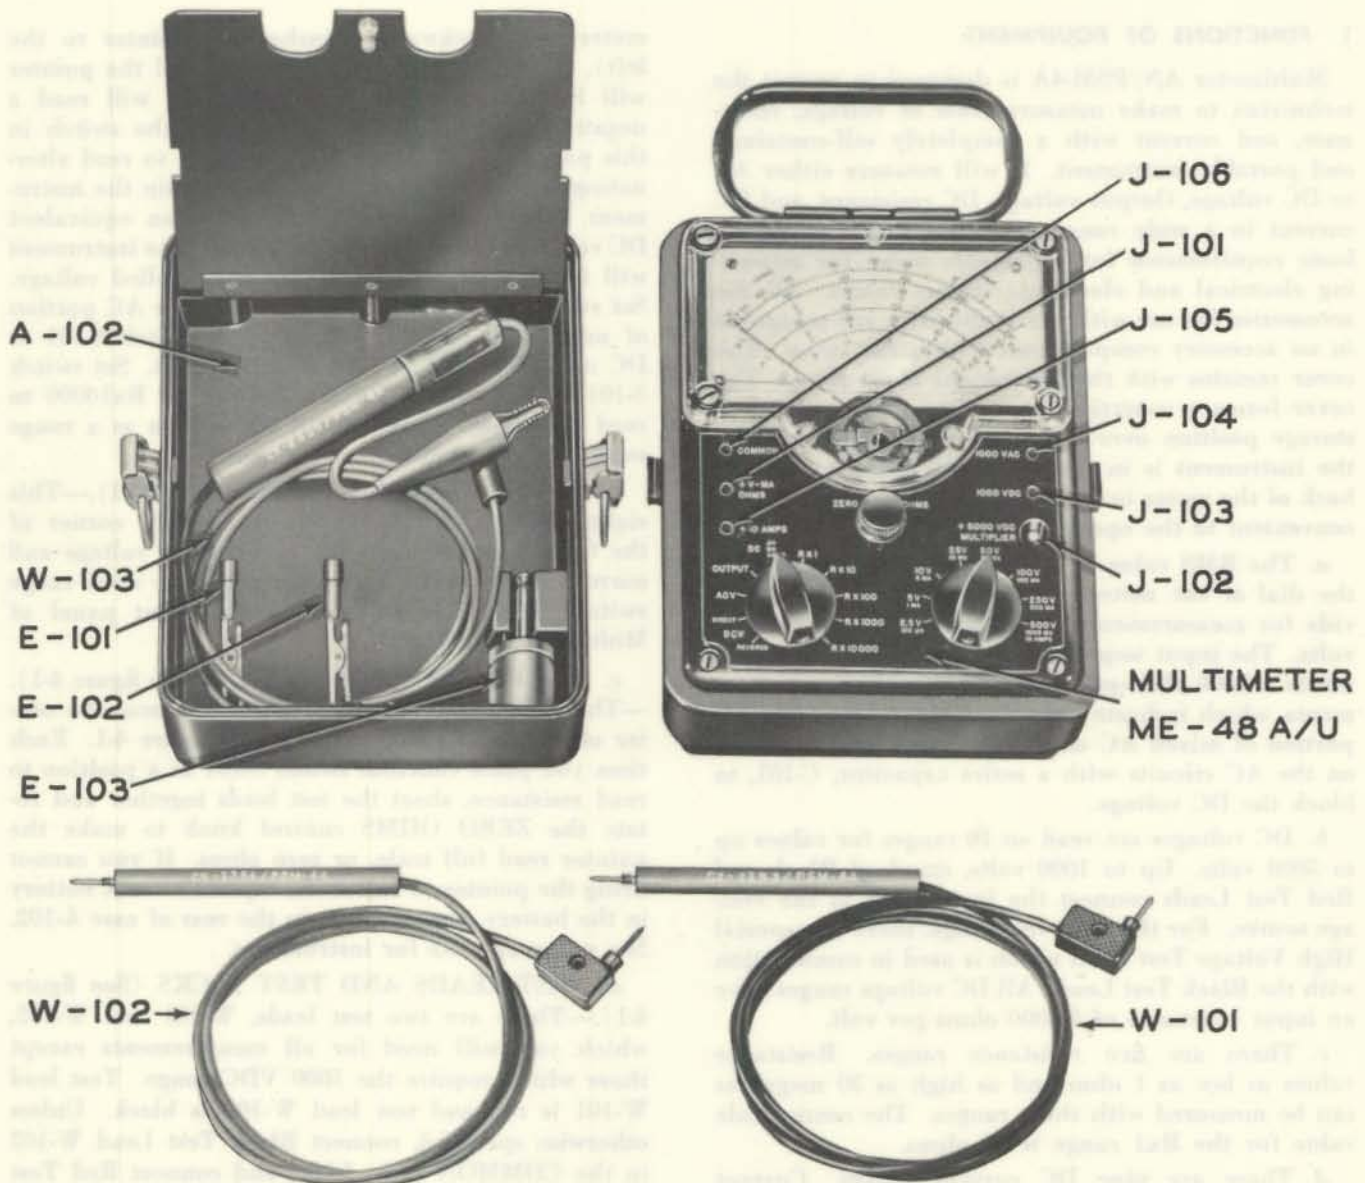

Figure 4-1. Front Panel and Cover; Location of Controls, Jacks, Leads and Accessories.
When you are through using any test leads and other accessories, replace them in the accessory compartment inside the cover, A-102. This will prevent them from being lost when you need them for future use of the multimeter. Figure 4-1 shows the storage location for the accessories. Place telephone plug E-103 in the molded rack in the lower right hand corner, and clip alligator clips E-101 and E-102 over the short molded posts at the lower left. Fold each test lead, W-101, W-102 and W-103, and lay all three leads in the remaining space within the compartment. Figure 4-1 shows only High Voltage Test Lead W-103 in this position. Close the hinged access door and press down to catch it in position. Then clamp the entire cover in place over the face of Multimeter ME-48A/U. When you snap the two cover clamps down tightly, you form a watertight case for the instrument and its accessories. The entire unit will float. However, the battery compartment is not included in the watertight enclosure.
a. **FUNCTION SWITCH S-101** (See figure 4-1).—Function switch S-101, located in the lower left hand corner of the front panel, selects the type of circuit for which the instrument is connected. There are two positions for DC volts: **DIRECT** and **REVERSE**. The normal position is **DIRECT**. If you connect the instrument for a DC voltage measurement and find that you have a polarity connection which makes the
b. **RANGE SWITCH S-102** (See figure 4-1).—This eight position switch in the lower right corner of the front panel permits the selection of voltage and current ranges. The full scale value for each range switch position is marked on the front panel of Multimeter ME-48A/U.
c. **ZERO OHMS CONTROL R-110** (See figure 4-1).—The **ZERO OHMS** control is located near the center of the front panel as shown in figure 4-1. Each time you place function switch S-101 in a position to read resistance, short the test leads together and rotate the **ZERO OHMS** control knob to make the pointer read full scale, or zero ohms. If you cannot bring the pointer to full scale, replace a weak battery in the battery compartment in the rear of case A-102. See paragraph 6-2 for instructions.
d. **TEST LEADS AND TEST JACKS** (See figure 4-1).—There are two test leads, W-101 and W-102, which you will need for all measurements except those which require the 5000 VDC range. Test lead W-101 is red and test lead W-102 is black. Unless otherwise specified, connect Black Test Lead W-102 in the **COMMON** jack, J-106, and connect Red Test Lead W-101 in the **+V MA OHMS** jack, J-101. For the 1000 volt DC range, place Red Test Lead W-101 in the 1000 VDC jack, J-103. For the 1000 volt AC range, place Red Test Lead W-101 in the 1000 VAC jack, J-104. For the 10 ampere DC current range, place Red Test Lead W-101 in the 10 AMPS jack, J-105. Use the Red Test Lead to contact positive polarity for DC measurements and the Black Test Lead to contact negative polarity. For the 5000 volt DC range, use Black Test Lead W-102 in the **COMMON** jack, J-106, and use the High Voltage Test Lead, W-103, screwed on over recessed post J-102, **+5000 VDC MULTIPLIER**.
e. ACCESSORIES E-101, E-102, AND E-103 (See figure 4-1).—There are two alligator clips, E-101 and E-102, which the operator may use to screw on over the end of test leads W-101 and W-102. This is for the convenience of the operator. There is a telephone plug, E-103, which may be used to connect both the test leads, W-101 and W-102, to contacts within a